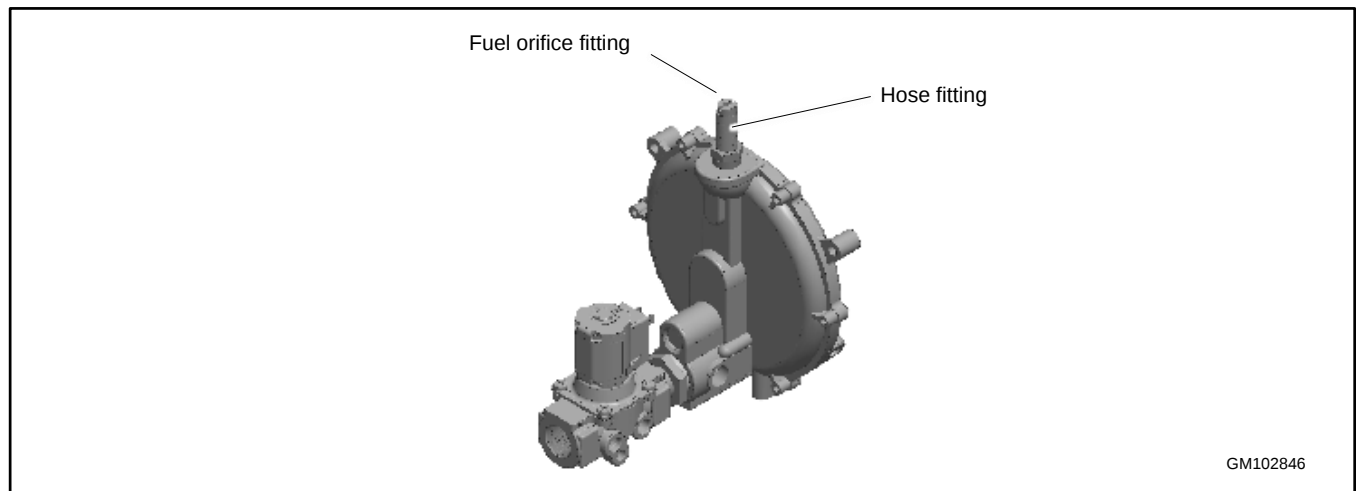

Figure 14 Fuel System Showing Orifice Fitting (14RCA/14RCAL)
5. Remove the hose clamp and fuel hose from the hose fitting. See Figure 14.
6. Use a straight-blade screwdriver to remove the NG orifice from the hose fitting. See Figure 14.